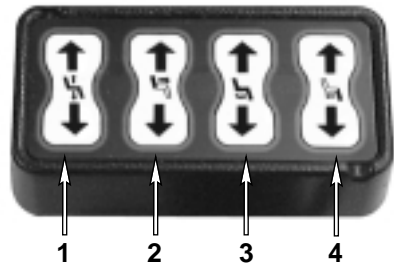

Fig. 16. Seat control panel
The seat control panel is attached between the control panel and the right armrest. The control panel and seat control panel can also be fitted to the left armrest. The fig. 16 below shows the various functions.
1. *Seat lift, Fig. 16:1*
2. *Backrest angle, Fig. 16:2*
3. *Seat angle, Fig. 16:3*
4. *Leg support, Fig. 16:4*